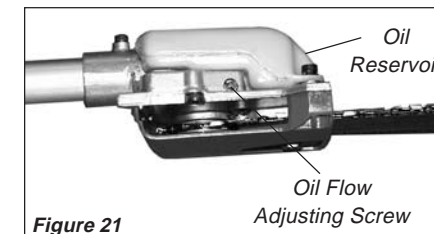

Figure 21
- Place the unit on its side with the oil reservoir up. See Figure 21.